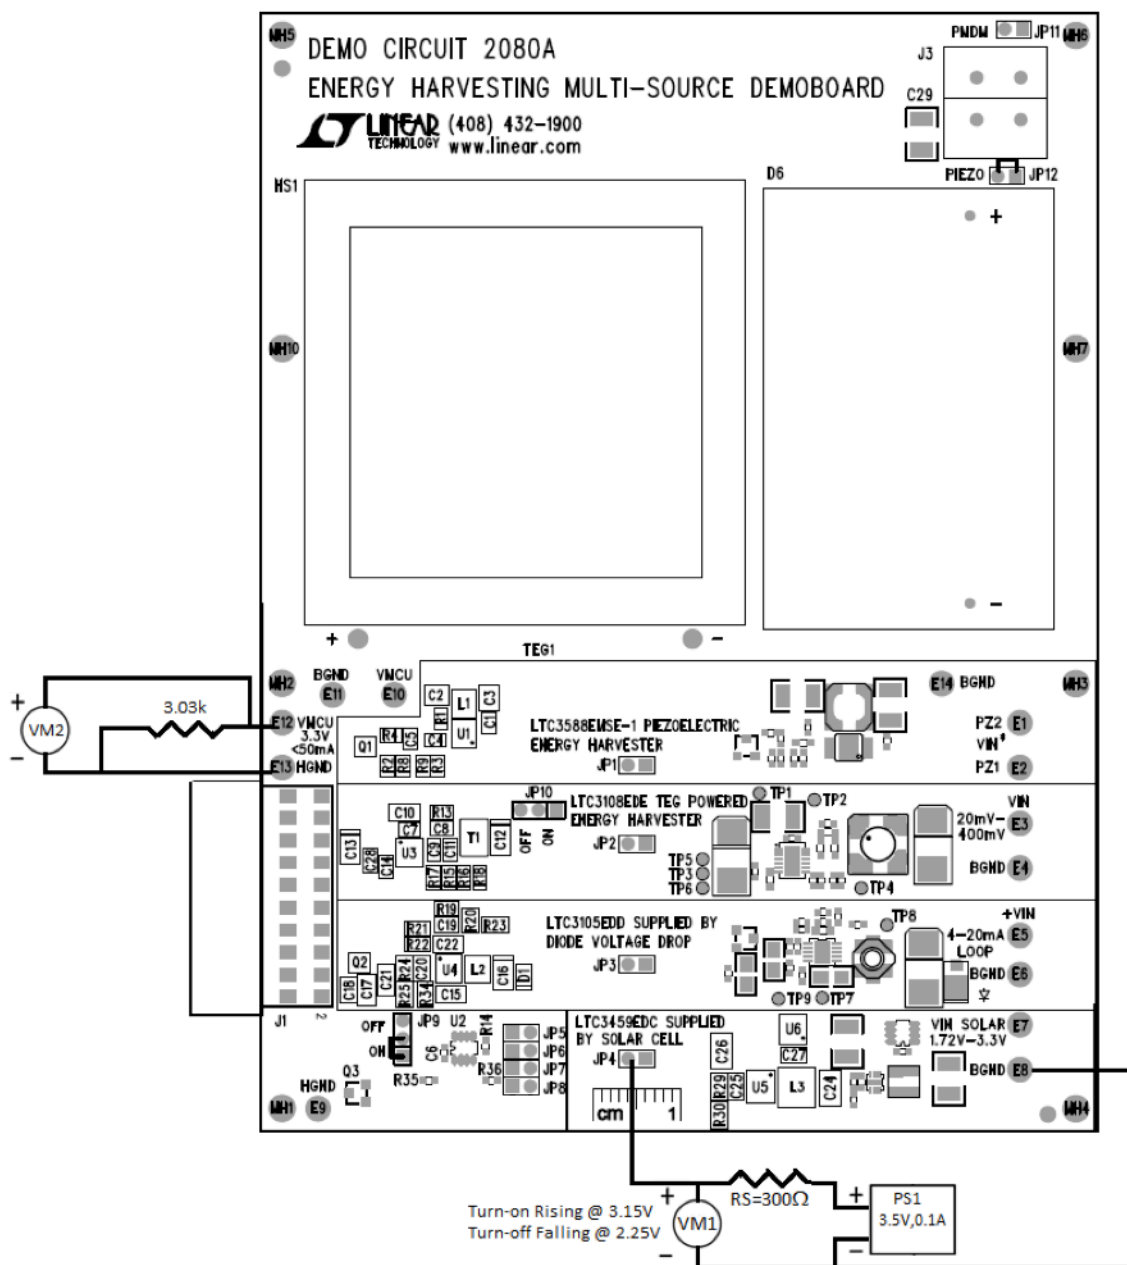

Figure 2. VMCU Power Switchover Test Setup
Refer to Figures 2, 3 and 4 for the proper equipment setup and jumper settings for the following quick start procedure.
1. Configure the equipment and jumpers as shown in Figure 2. Verify the jumper settings are as follows: